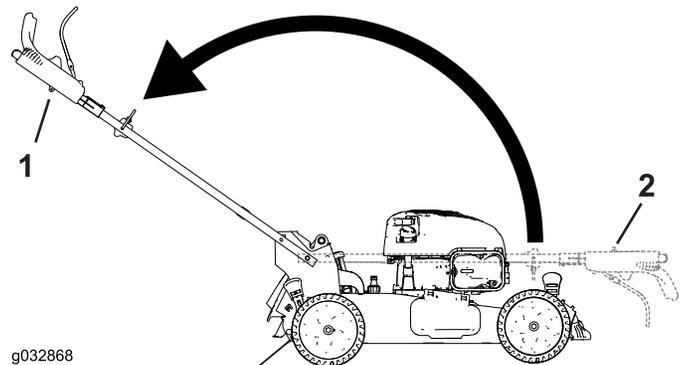

**Figure 4**
2. Install the handle ends onto the mower housing so that the pin attached to each handle bracket is in the lower hole of its related handle end (Figure 4).